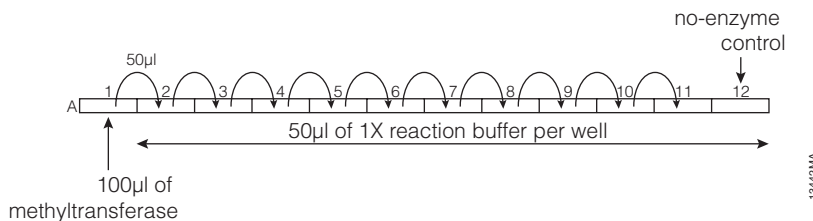

Figure 6. Dilution scheme for the methyltransferase enzyme.
- Perform a serial twofold dilution of enzyme by transferring 50µl from well A1 to well A2, and pipet to mix. Transfer 50µl from well A2 to well A3; mix well. Repeat for wells A3 through A11. Discard 50µl from well A11. Do not add enzyme to well A12. See Figure 6.